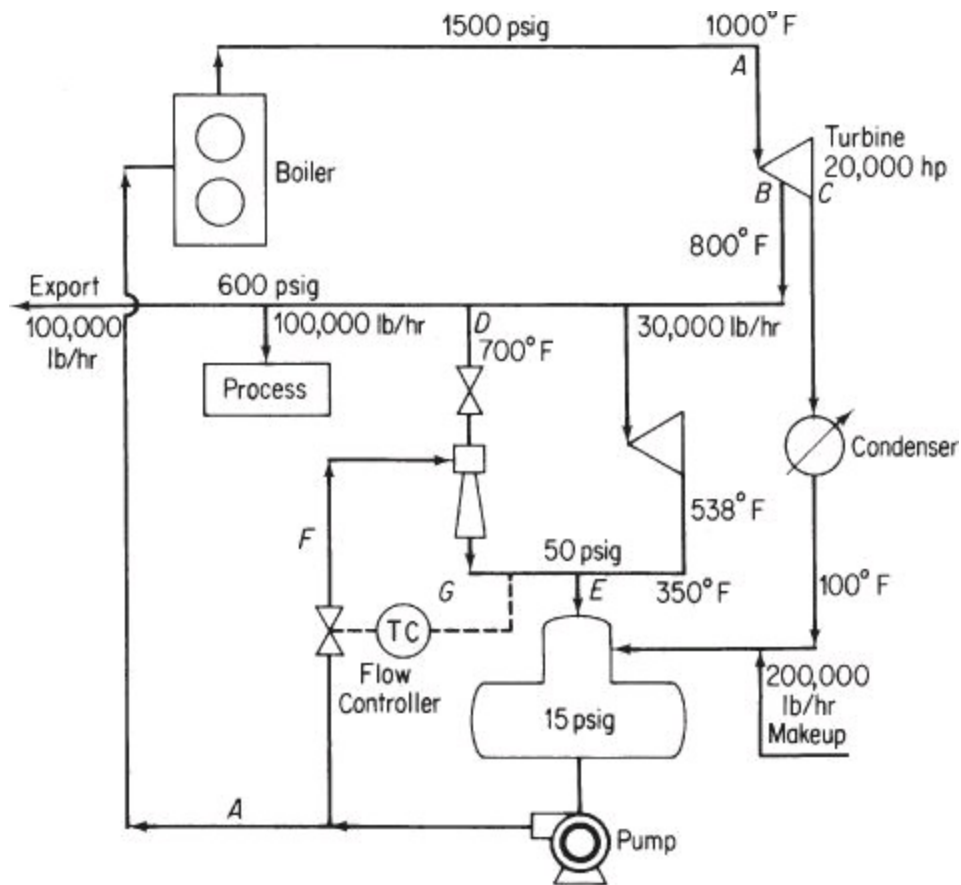

Figure P16.3
- 16.3.** The stream flows for a plant are shown in Figure P16.3. Write the material and energy balances for the system and calculate the unknown quantities in the diagram (A to F). There are two main levels of stream flow: 600 psig and 50 psig. Use the steam tables for the enthalpies.